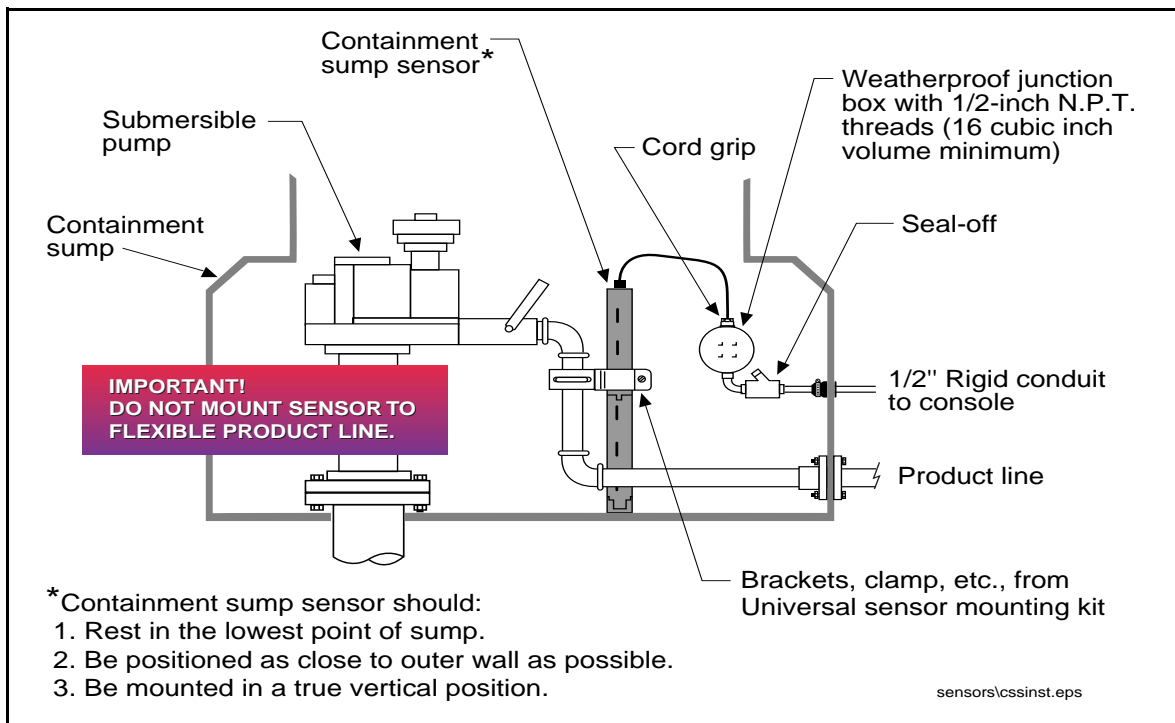

Figure 4. Typical Containment Sump Sensor Installation
3. Install the mounting hardware according to the instructions provided with the Universal Mounting Kit (see Figure 4).